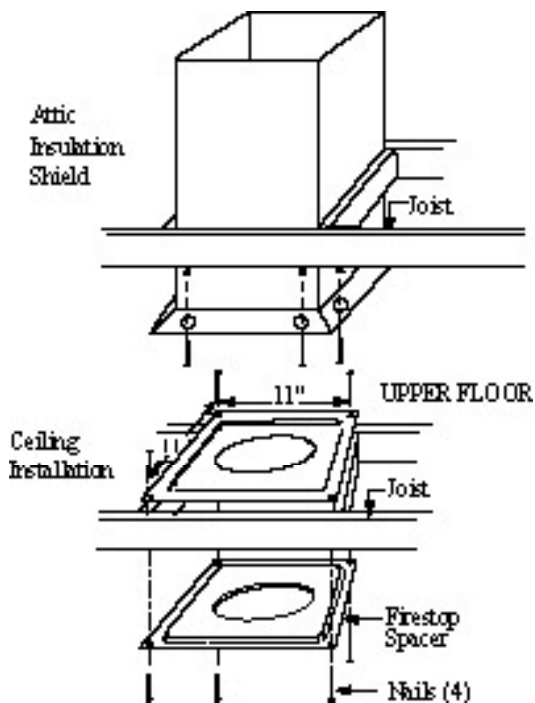

Fig. 35
6. Place firestop(s) #7DVFS or Attic Insulation Shield #7DVAIS into position and secure. (Fig. 35)